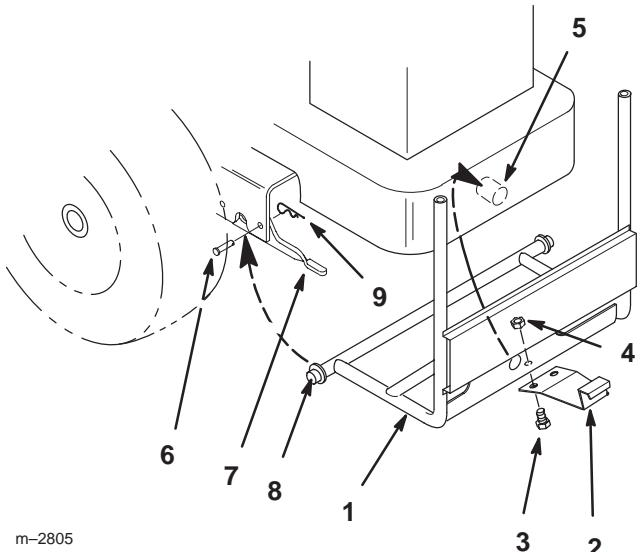

Figure 12
1. Assemble the support bracket into the bagger mount with (2) 3/8"-13 x 3/4" (19 mm) bolts and locknuts (Fig. 12).
2. Install the bagger mount over pin inside rear traction frame cross member (Fig. 12).
3. Lift latch levers and install mounting rod (Fig. 12).
4. Secure latch levers closed with clevis pins and hairpin cotters (Fig. 12).